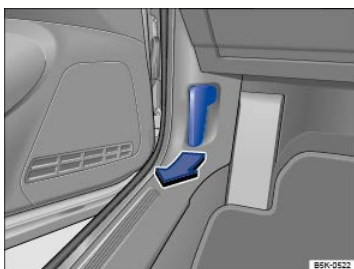

Fig. 196 In the footwell on the driver side: Inside engine hood release lever.
- Open the driver door and pull the inside hood release lever in the direction of the arrow ⇒ *Fig. 196*. The engine hood is released from its latch by a spring ⇒ .